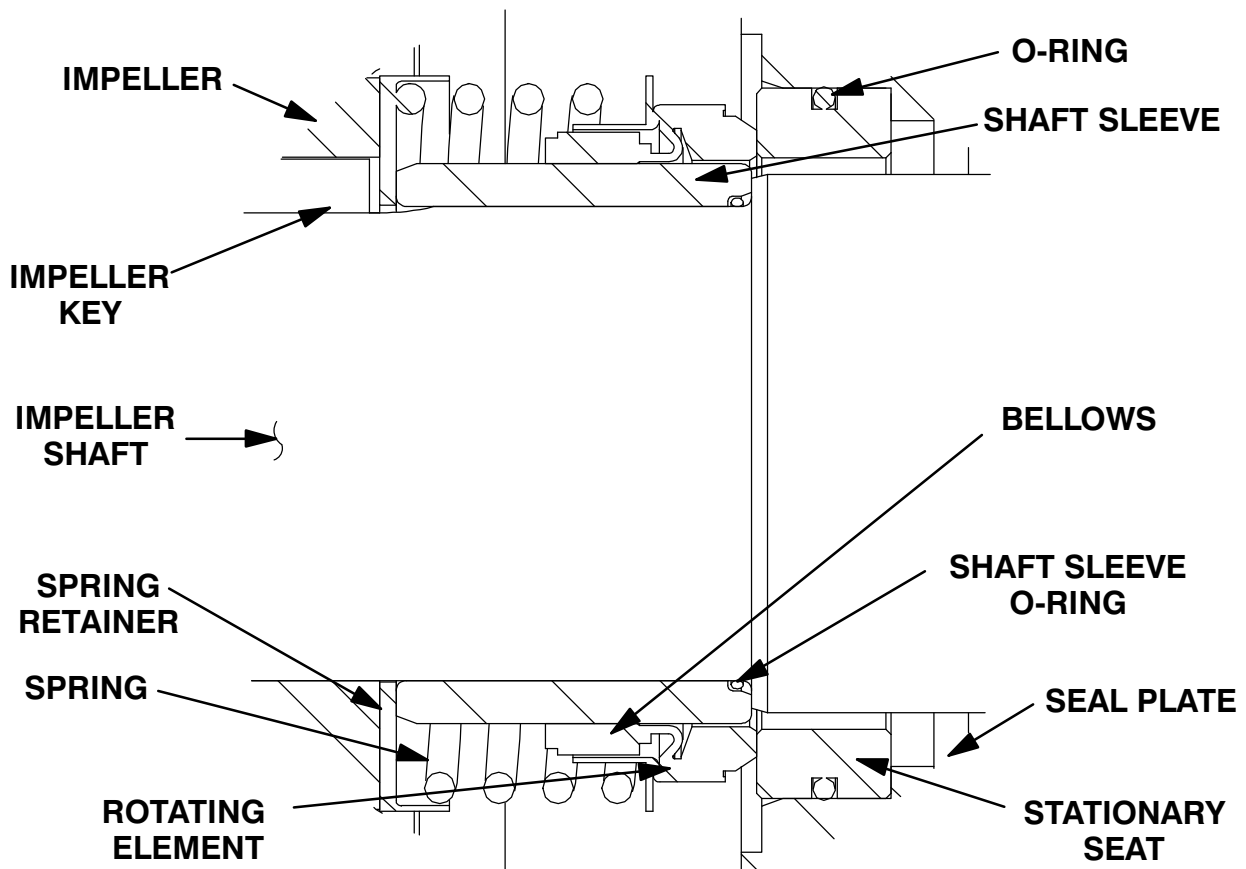

Figure 11. Seal Assembly
To ease installation of the seal, lubricate the stationary seat O-ring, the I.D. of the bellows and the O.D. of the shaft sleeve (5) with "P-80[®] Emulsion" or water. **Do not** use oil or any substitute lubricant other than water. Apply a drop of light lubricating oil on the finished faces. Assemble the seal as follows, (see Figure 11).